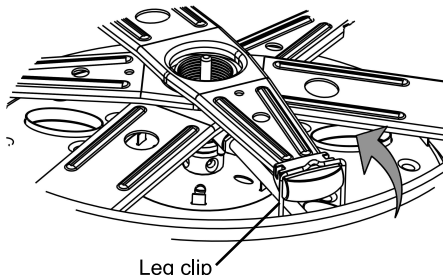

Fig. 8
- To open the legs, turn the unit upside-down and hold the legs down while releasing the leg clip (See Fig. 8).